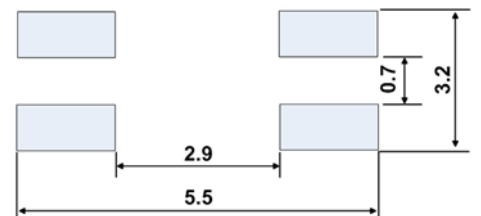

Fig.4-5
- 4.4 Recommended PCB pattern for reflow soldering: See Fig. 4-5.